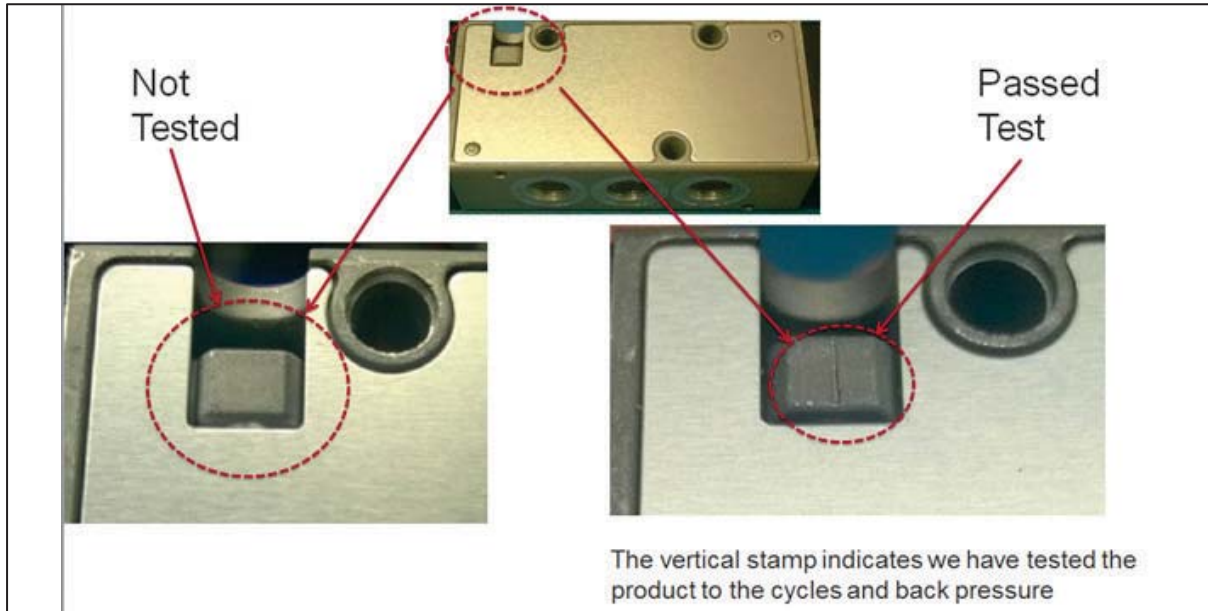

Figure 3
- 4) If year is 2015, inspect further to visually confirm a vertical stamp mark behind the valve (fig. 3)